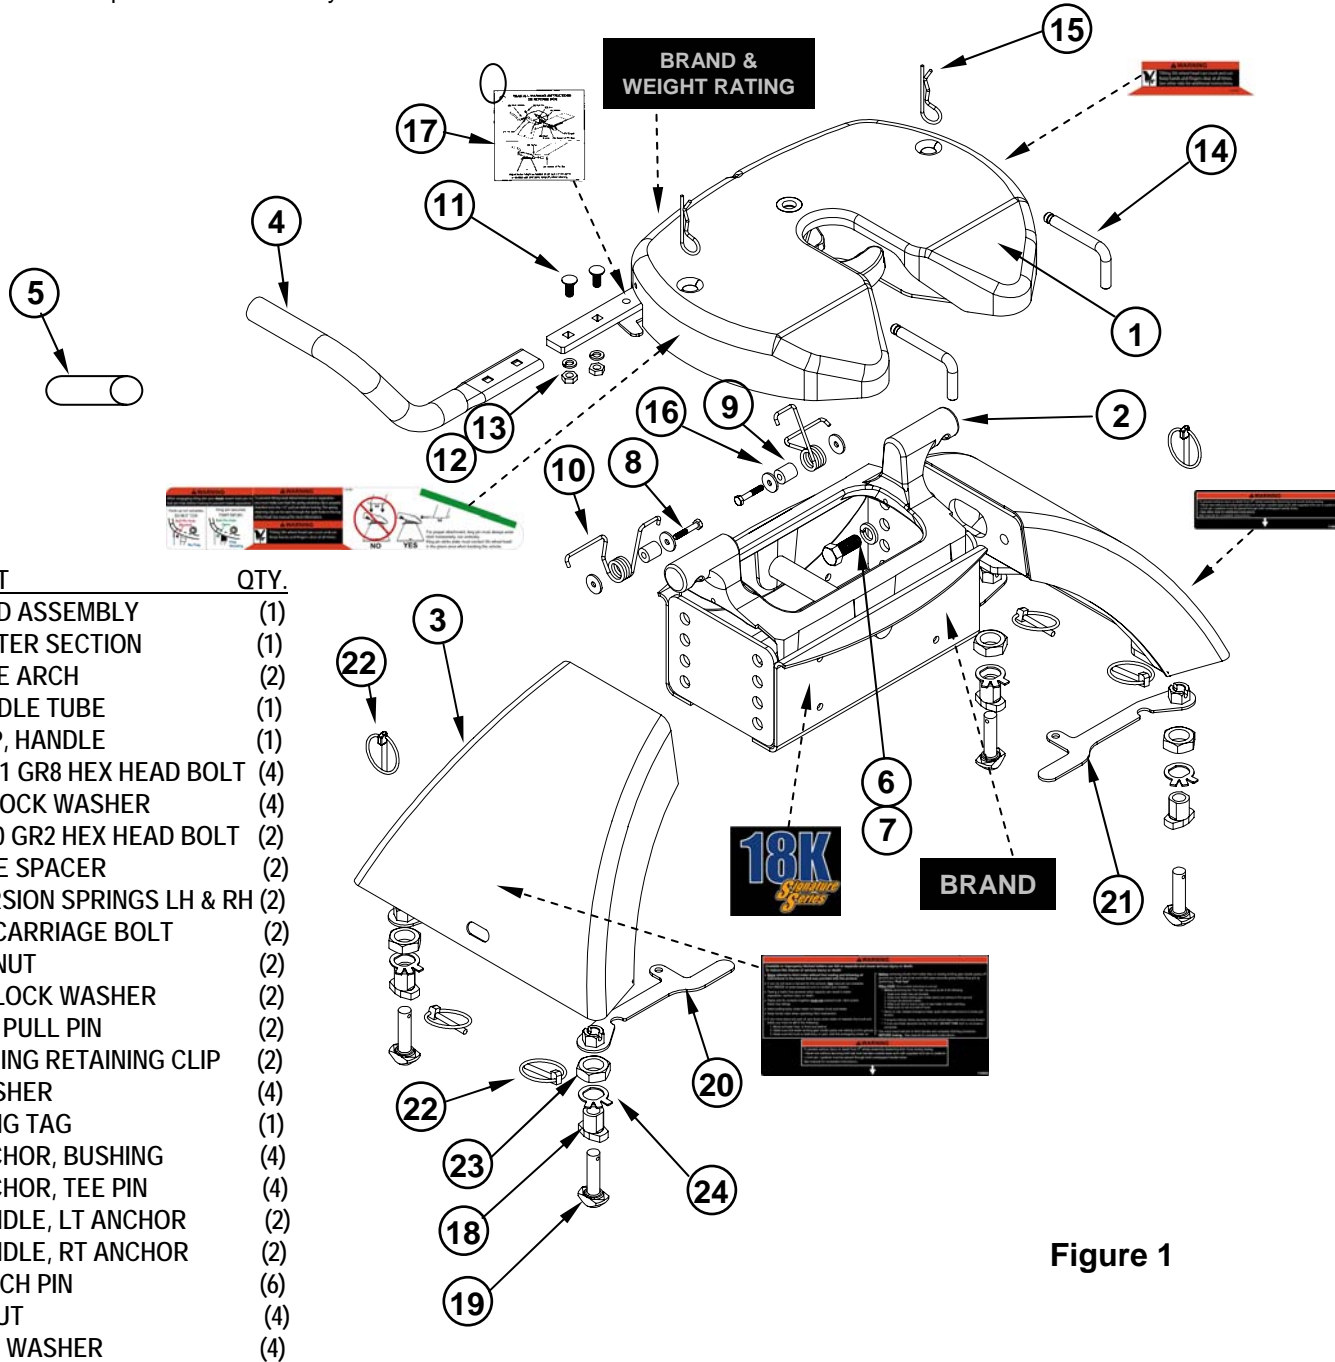

Figure 1
1. Check both boxes for all components listed in **Figure 1** and become familiar with component terminology. Anchor assemblies may be packed partially assembled and will need to be disassembled for installation.